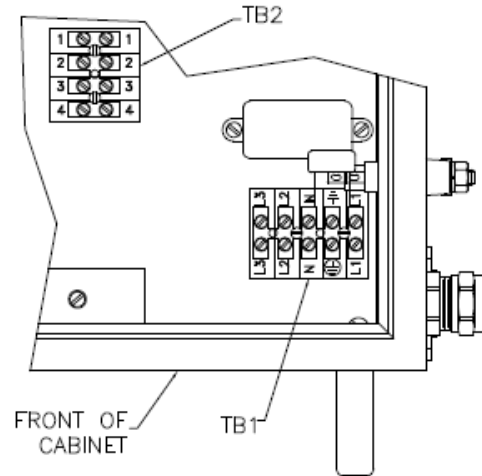
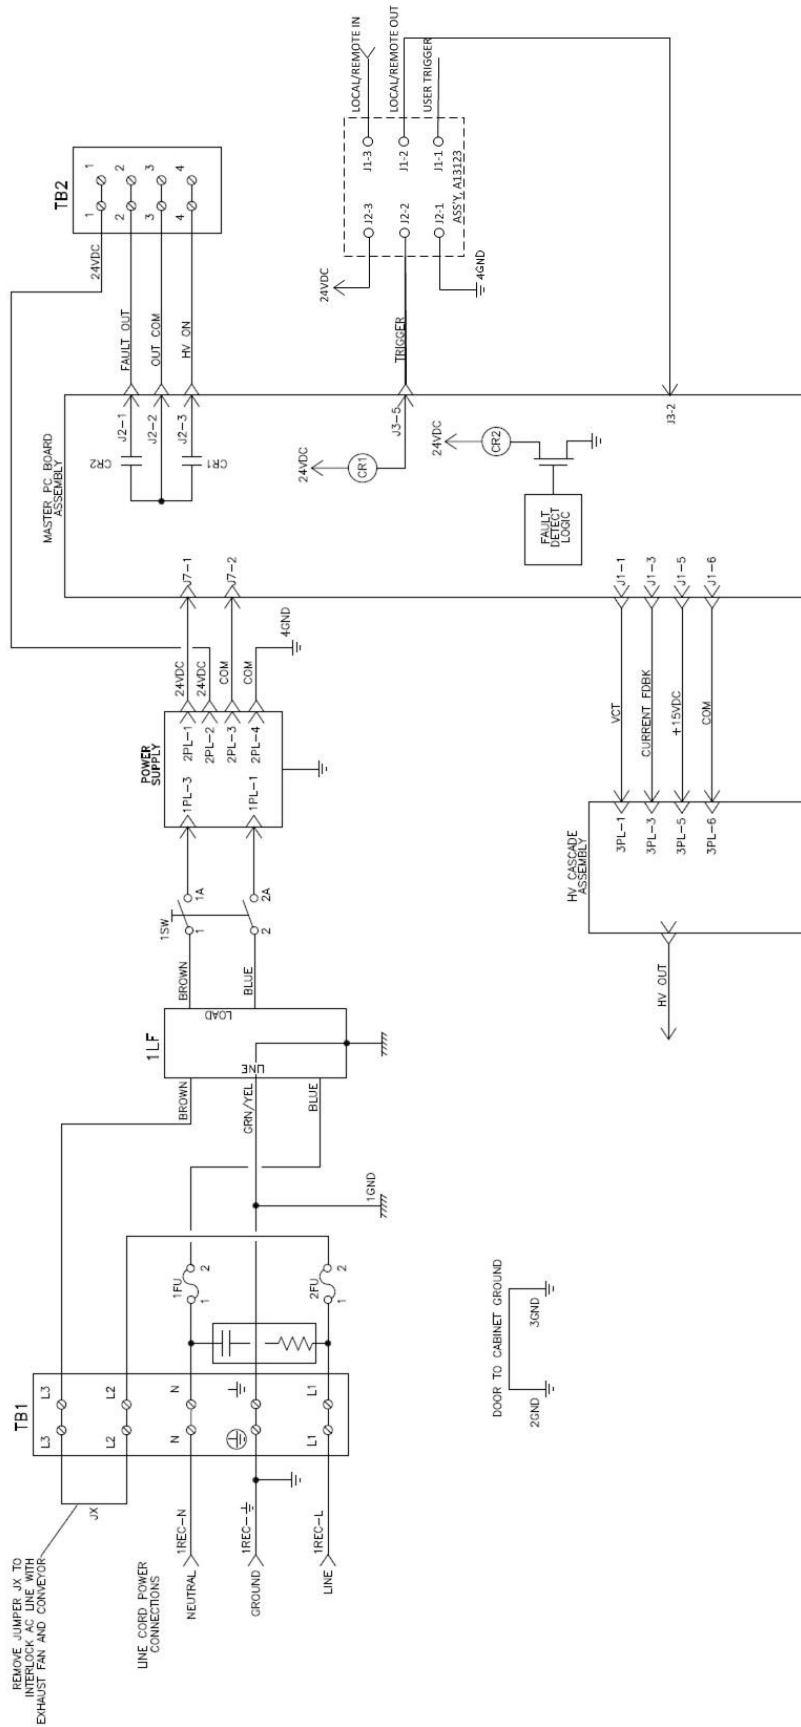

Figure 9: Location of TB1 & TB2 in Controller
Figure 12: Controller Schematic
1. **Ensure the AC line cord is unplugged** and remove the AC inlet receptacle wiring from TB1-N, TB1-L1 and TB1-EARTH GROUND (See Figures 9 and 10).
A set of relay contacts for high voltage (CR1) and fault (CR2) conditions is provided at 2TB-4 and 2TB-2 (See Figure 9). One end of these relay contacts are connected together and also connected to a source input terminal 2TB-3 (See Figure 12). When a source voltage is present at 2TB-3 and either the high voltage is on or a fault condition occurs, the source voltage will become available at the output end of the corresponding contact. Maximum contact ratings are as follows: